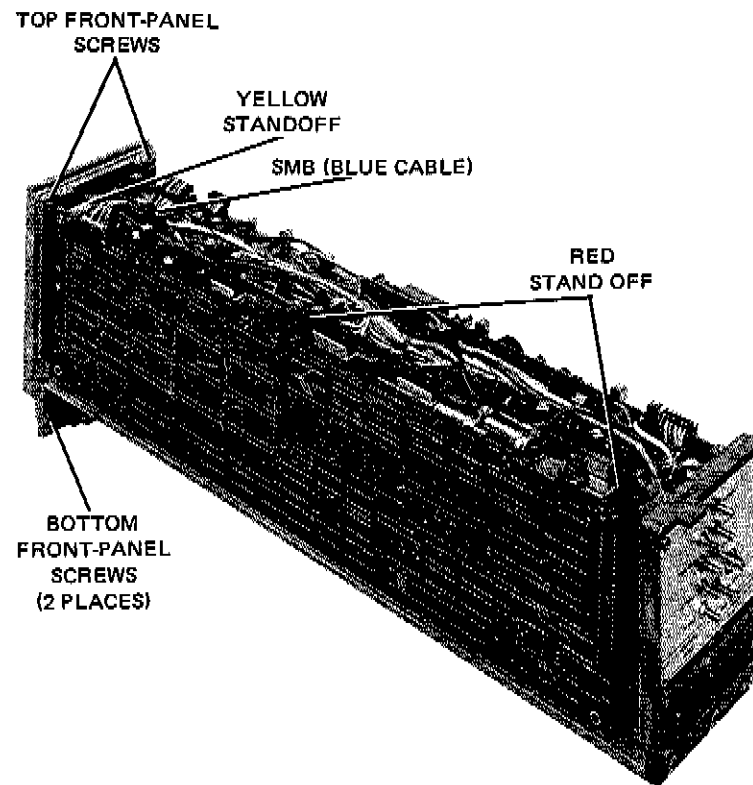

Figure 15. LO Front Frame Removal
2. Unplug the SMB connector attached to the blue cable (connecting the front-panel connector to the top of the module). See Figure 15.
3. Remove the two cables attached to the control board and remove the three screws and plastic standoffs. When reassembling the module, place the shorter (yellow) standoff nearest the module front. See Figure 15.